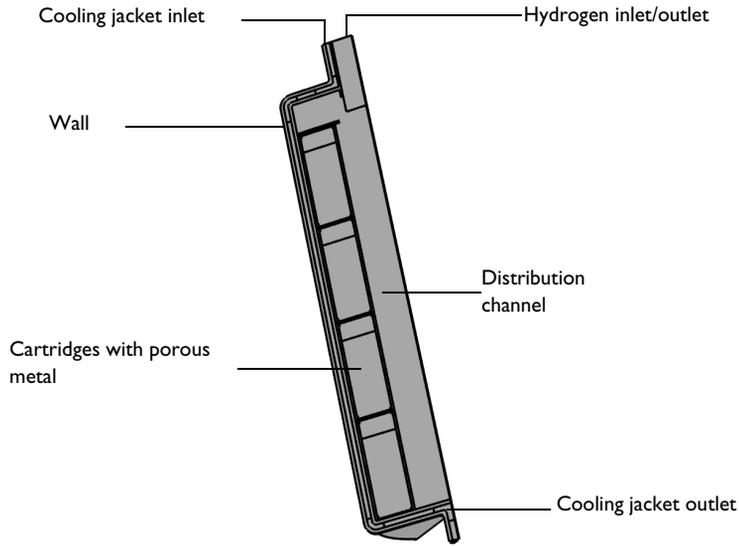

Figure 2: Model geometry including the domain and boundary labels.
**Figure 2** shows the modeled domain which consists of 1/8 of the tank geometry. This simplification can be made due to the geometric symmetry of the cartridges. To further